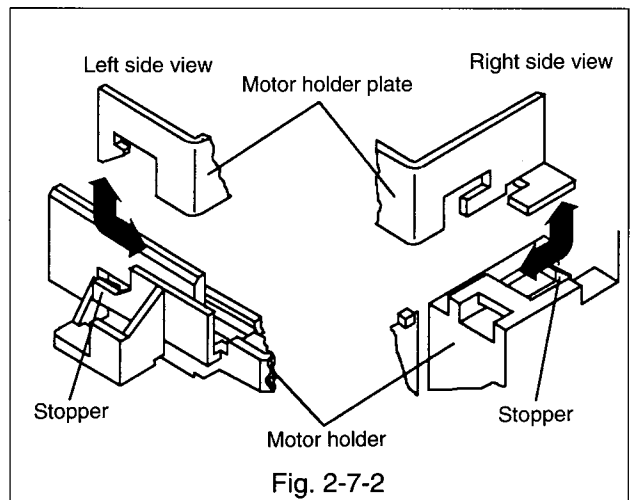

Fig. 2-7-2
- Remove two stoppers securing the motor and the motor holder plate.(Refer to Fig. 2-7-2.)